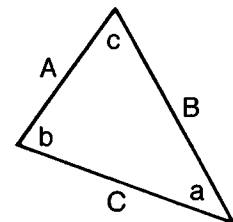

Figure A1
1. A triangle is a three-sided geometric figure. See Figure A1. The three sides are labeled A, B, and C and form three angles which are called a, b, and c. The sum of the angles in any triangle is 180° or $a + b + c = 180^\circ$.